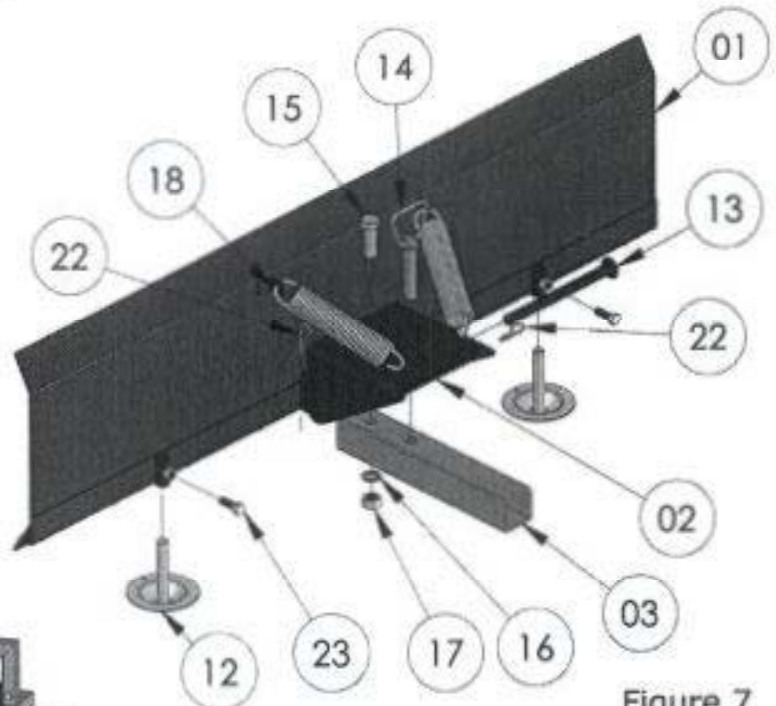

Figure 7
Step 6. Figure 7
Step 7. Figure 7